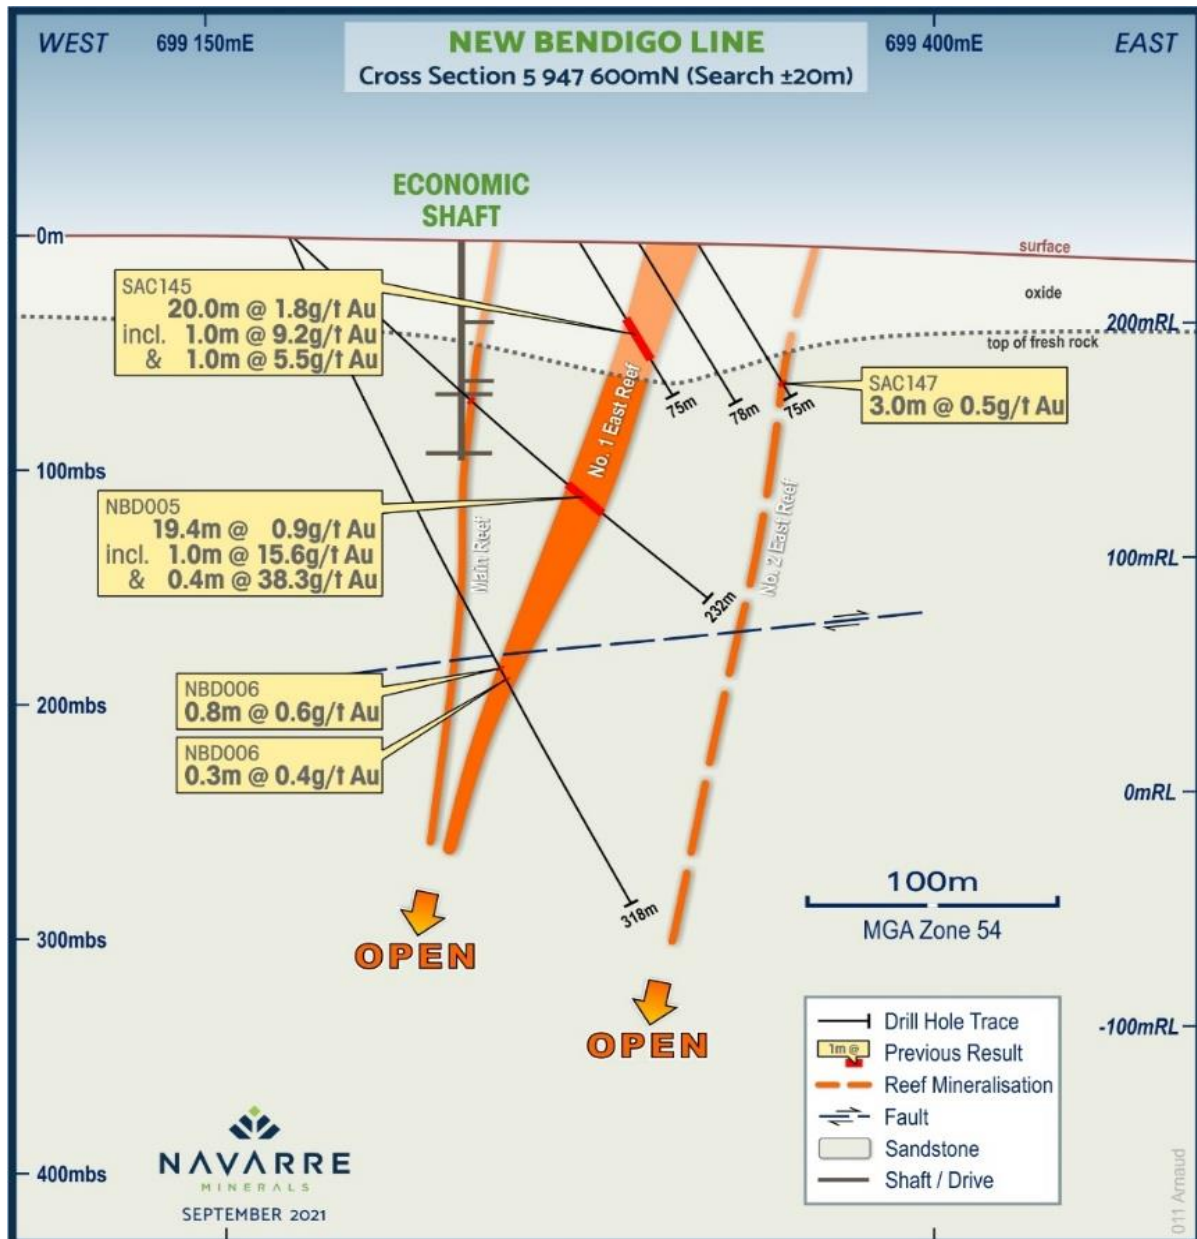

Figure 4: Cross Section interpretation of the parallel reef systems intersected on the New Bendigo Line, St Arnaud.
2. Gold mineralisation occurs in planar, sub-parallel quartz reef structures that are generally inclined steeply to the west at approximately 70 – 75 degrees (Figure 4).